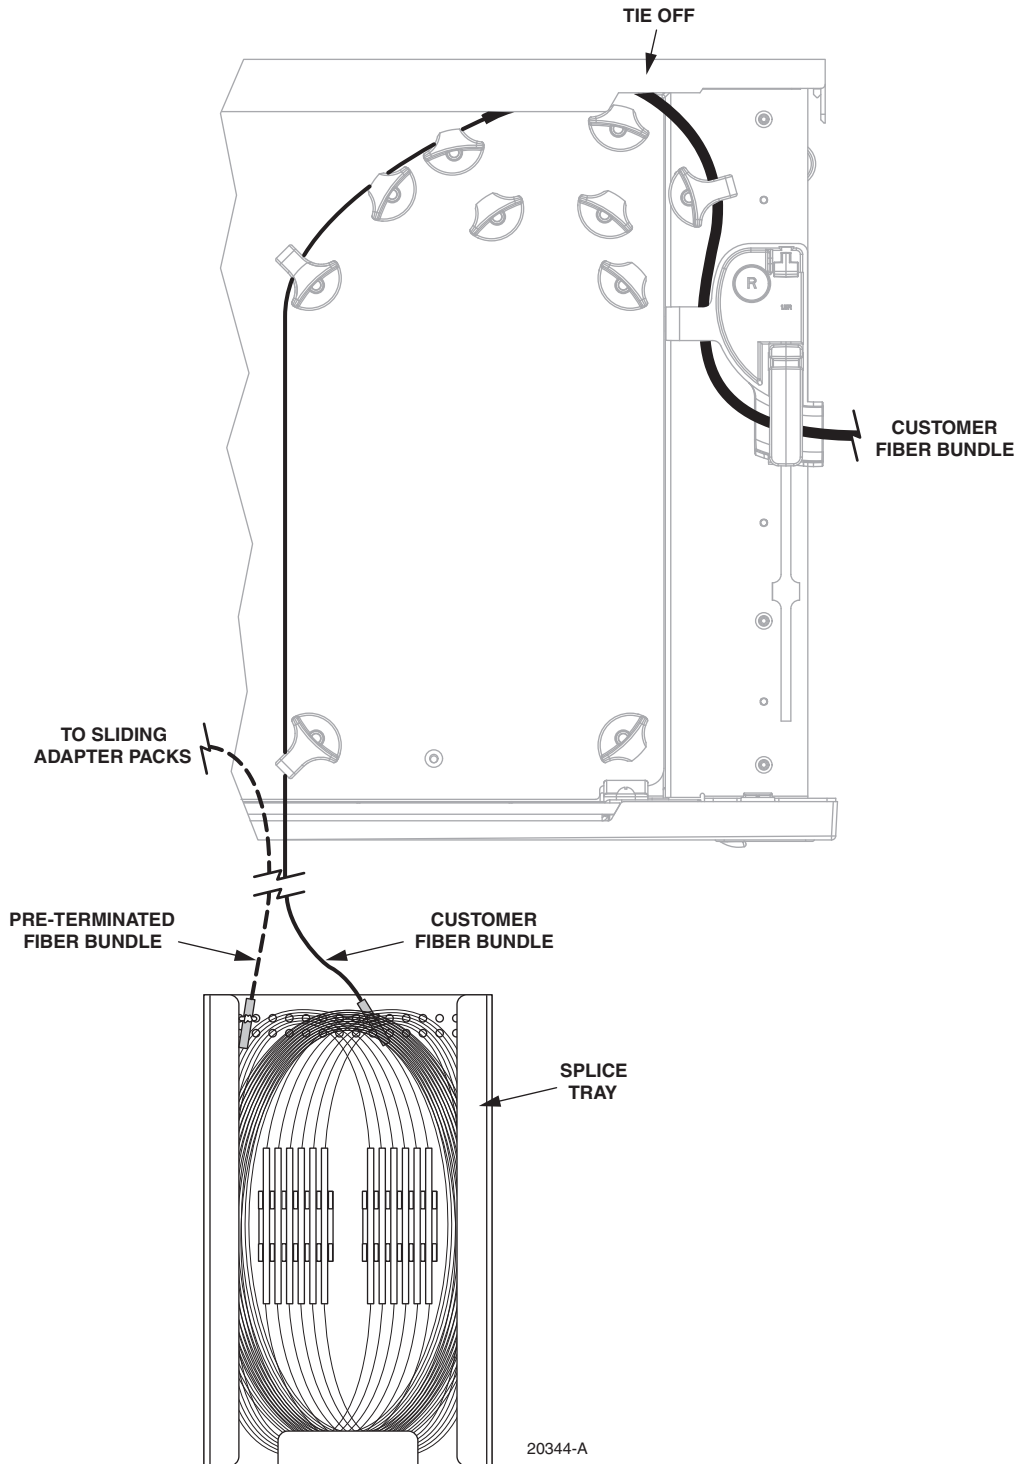

Figure 12. Cable Routing for 12-Position Termination and Splice Tray, Step 2
2. Route the cables into the tray as shown in Figure 12, and perform the splices outside the tray at an adjacent work area, as shown. Perform the splices following local practice. Refer to pigtail installation drawing (provided with FMT) for pigtail connection scheme.